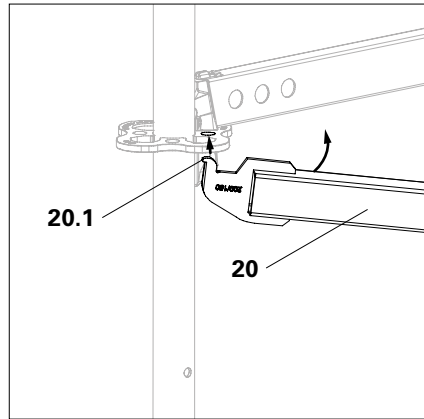
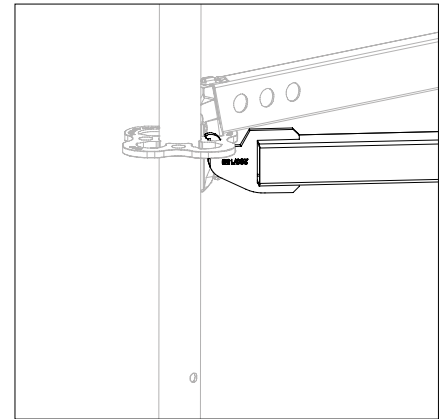

Fig. A4.01a
Fig. A4.01b
1. Thread the mounting lug (**20.1**) of the horizontal brace (**20**) from below into the brace adapter receptacle of the first rosette and secure it by swivelling the brace upwards. (Fig. A4.01a + Fig. A4.01b)